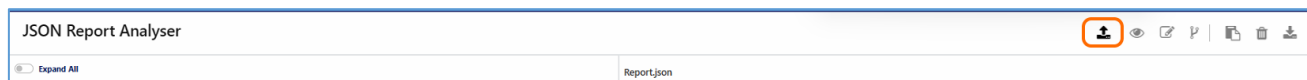

FIGURE 8.111: UPLOAD JSON REPORT ICON
1. Click on the Upload icon  at the top right of the *JSON Report Analyzer* screen as shown in Figure 8.111 below.